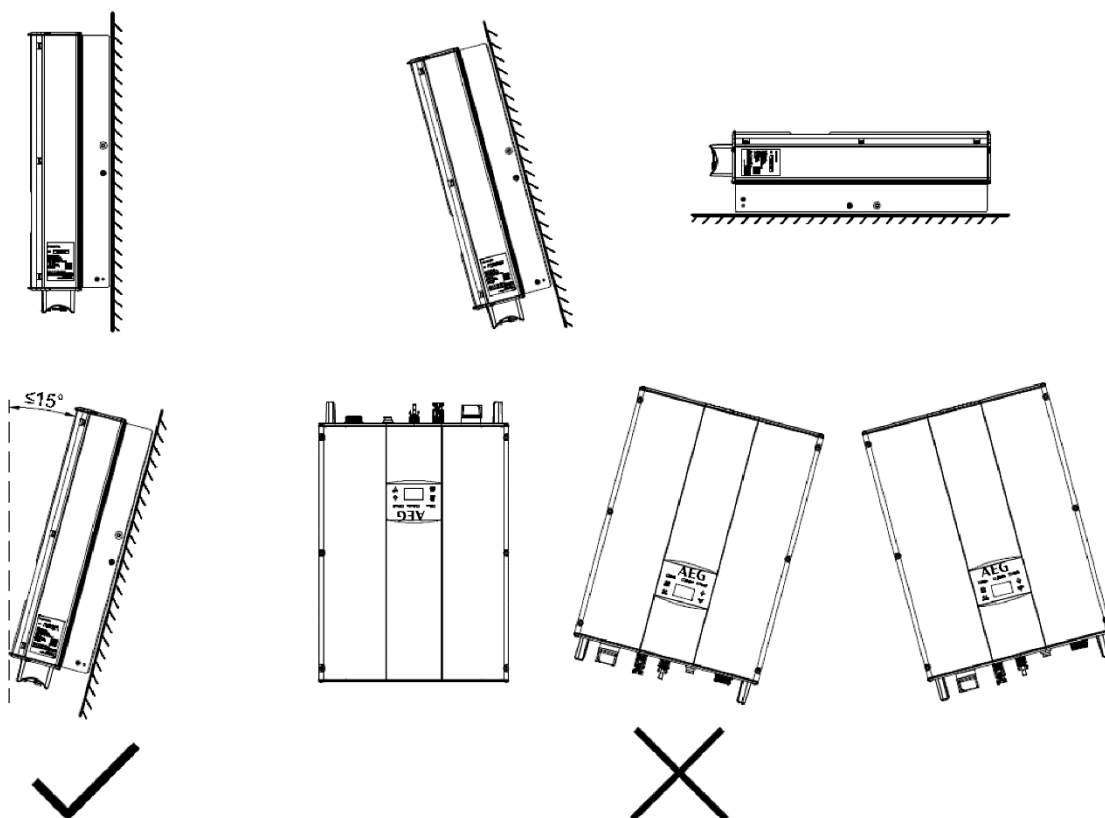

Figure 8C (mm) Correct (and not correct) installation position of the AEG inverter
4. When installing more than one inverter, please ensure that enough space is kept between the individual inverters. The recommended spacing left and right of the product are shown in figure 8C. The upper and lower side of the inverter should have sufficient space to ensure good heat dissipation.